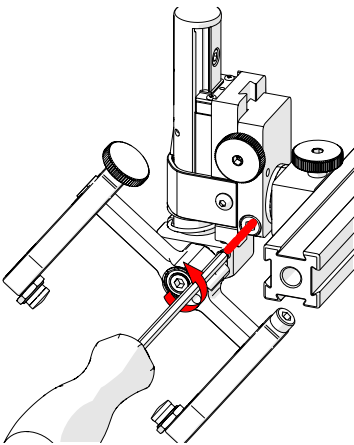

Fig. 155 - Loosen 3 mm screw
2. Using the supplied 3 mm hex driver (Fig. 50), loosen the longitudinal adjustment screw (Fig. 155).